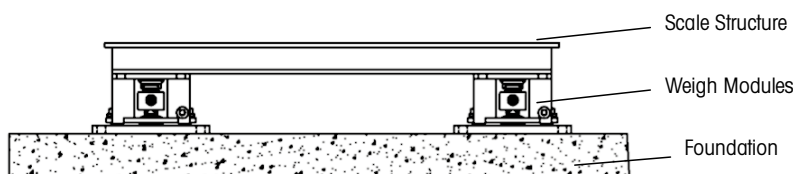

Figure 5-8: Typical Scale Configuration (2 of 4 weigh modules visible)
- See figure 5-8, weigh modules must be sandwiched between a rigid foundation below and a rigid scale structure above to ensure that the base and top plates remain * horizontal. The foundation can be concrete or structural steelwork. The scale structure can be a steel platform, tank, hopper, etc. that provides rigidity to the weigh module top plates. If a tank has long legs it is important that they be strong and cross-braced, see Figures 5-15a and 5-15b below.